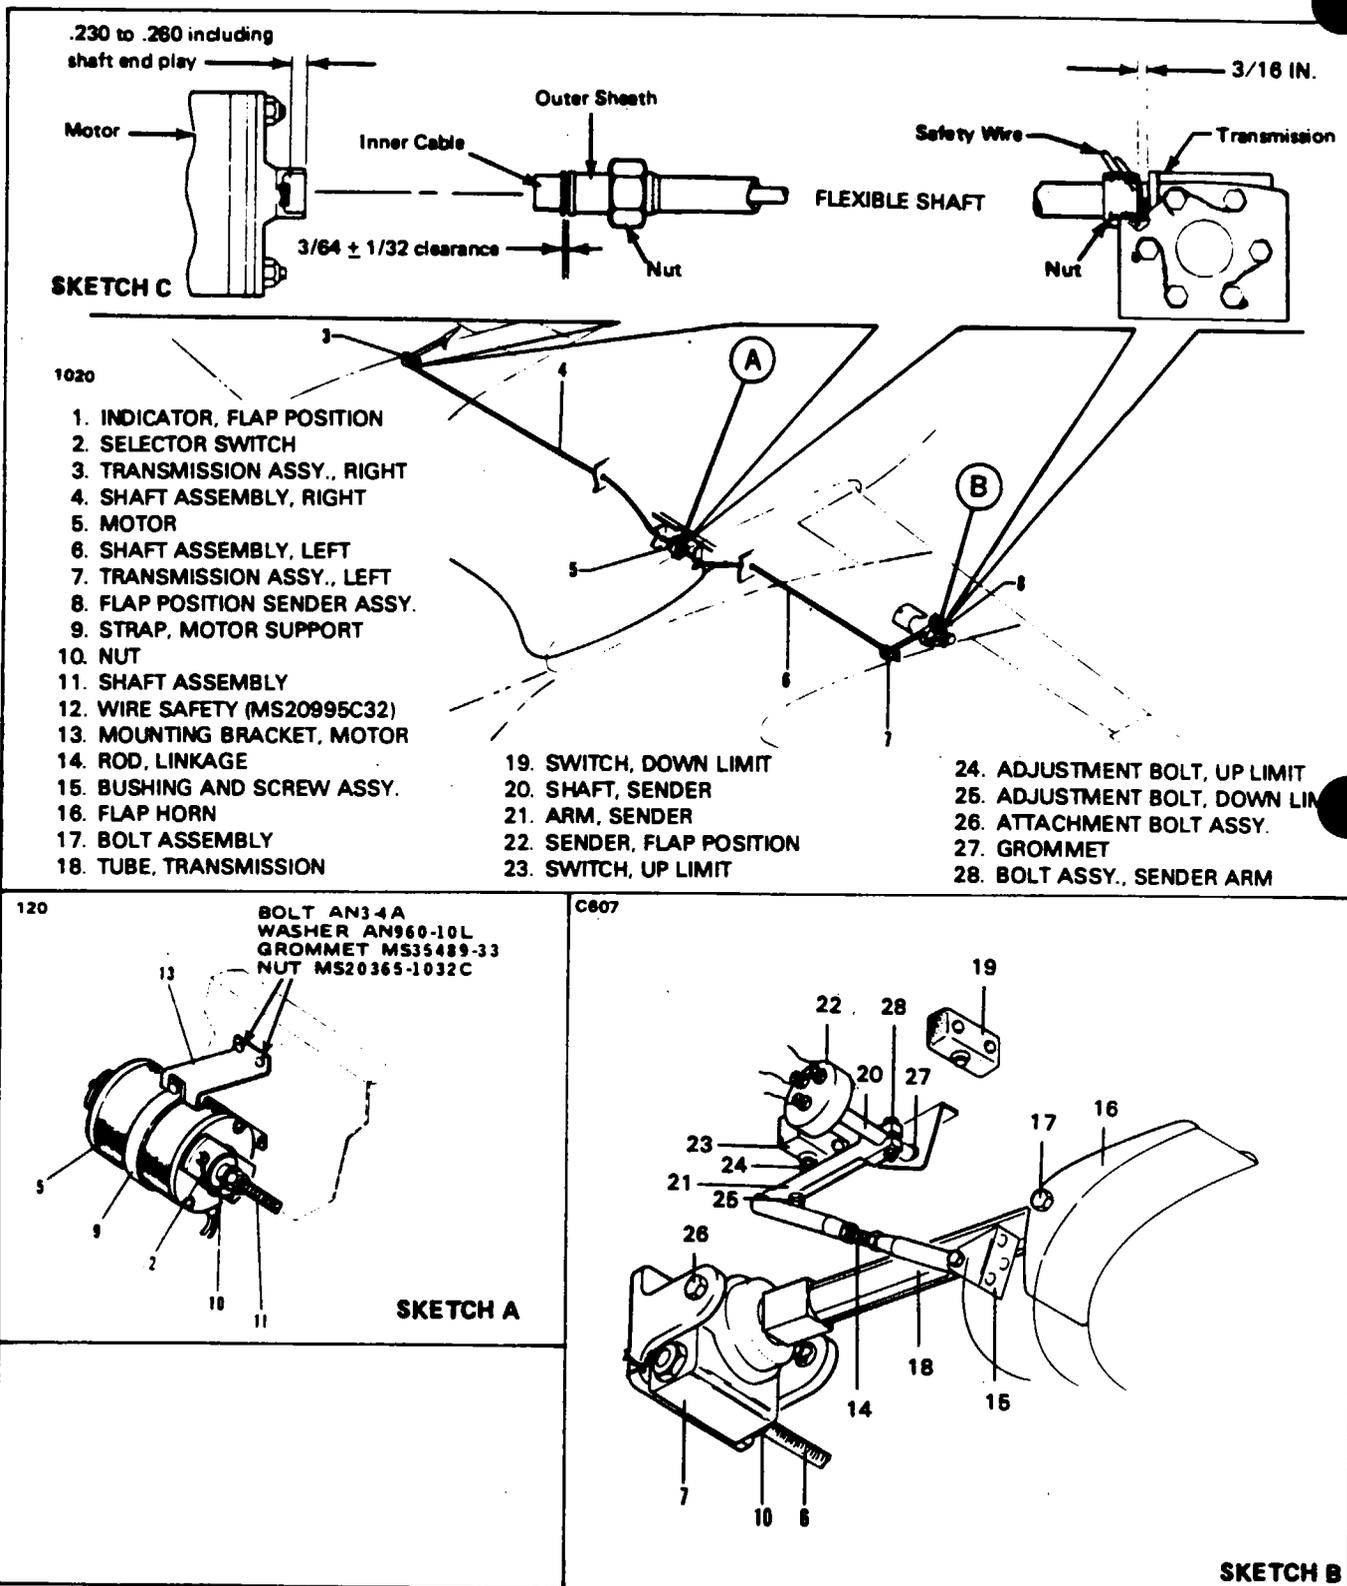

Figure 27-23. Flap Installation
**DESCRIPTIONS AND OPERATION.** (Refer to Figures 27-23 and 27-24.)
**REMOVAL OF FLAP ACTUATOR MOTOR.** (Refer to Figure 27-23.)
**INSTALLATION OF FLAP ACTUATOR MOTOR.** (Refer to Figure 27-23.)
**FLEXIBLE ACTUATOR SHAFT.** (Refer to Figure 27-23.)
**REMOVAL OF FLEXIBLE ACTUATOR SHAFT.** (Refer to Figure 27-23.)
**INSTALLATION OF FLEXIBLE ACTUATOR SHAFT.** (Refer to Figure 27-23.)
**REMOVAL OF FLAP TRANSMISSION.** (Refer to Figure 27-23.)